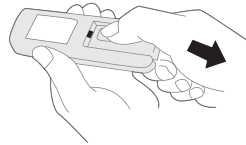

Fig.2
- Slide back the battery cover as shown in the Fig.2.